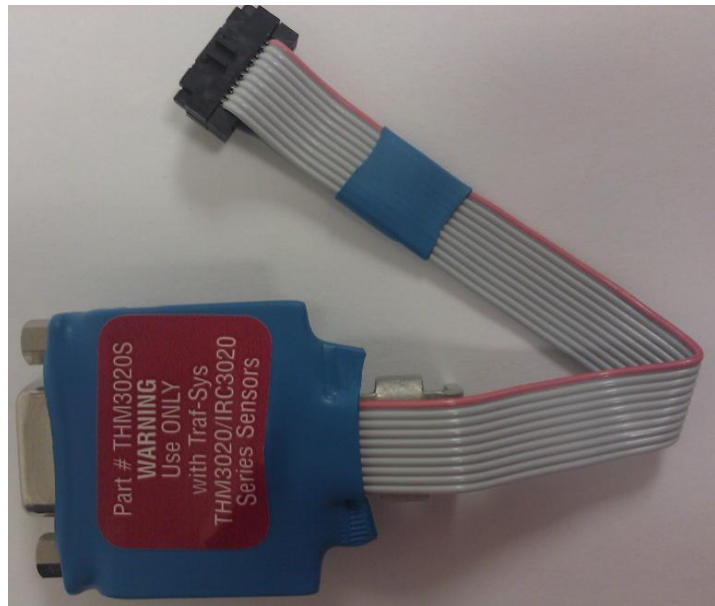

Figure 5
2. Connect the setup module at the 10 pin female connector inside the sensor; the 10 pin connector and port are black colored plastic. See Figure 5 below; also see Figures 6 & 7 for further illustration.